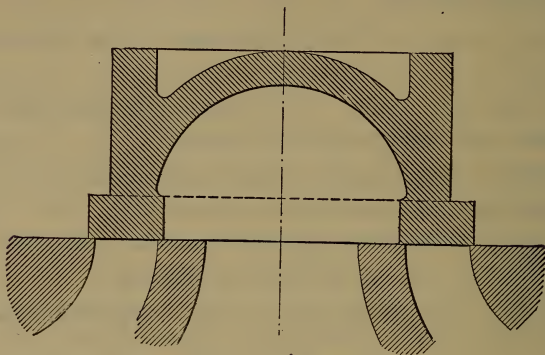
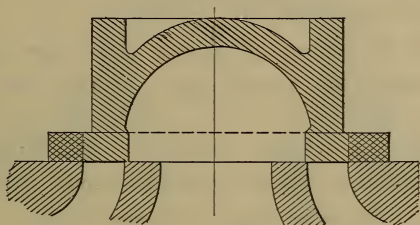
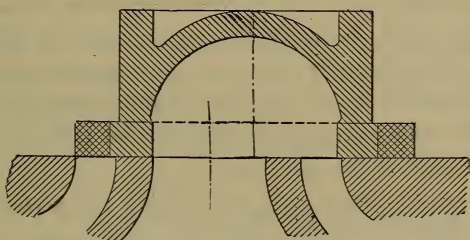

Fig. 134. Slide Valve.
Fig. 135 Slide Valve with Lap Added.
Fig. 136. Slide Valve with Lap Added.
A. As shown in Fig. 134, and in Figs. 135 and 136, it consists of a plain surface having three narrow ports, with parallel edges, all of which are at right angles to the direction of motion of the piston and of the valve. The central (and larger) one communicates only with the exhaust-passages, the end ones with the cylinder, at the counterbore, each serving alternately for admission and exhaust for its own cylinder end. There are usually shoulders at each end, so that the valve may in its travel extend beyond them, instead of cutting away material and wearing a low place in the seat.
A. Outside, equal to the extreme distance between outside edges of the end ports; inside, equal to the distance between inside edges of the same ports, as shown in Fig. 135, where the valve is in mid-position.
the end ports. In Fig. 135, where the valve is in mid-position, the outside lap is represented by the extra heavily hatched portions at both ends. In Fig. 136 there is no lap.